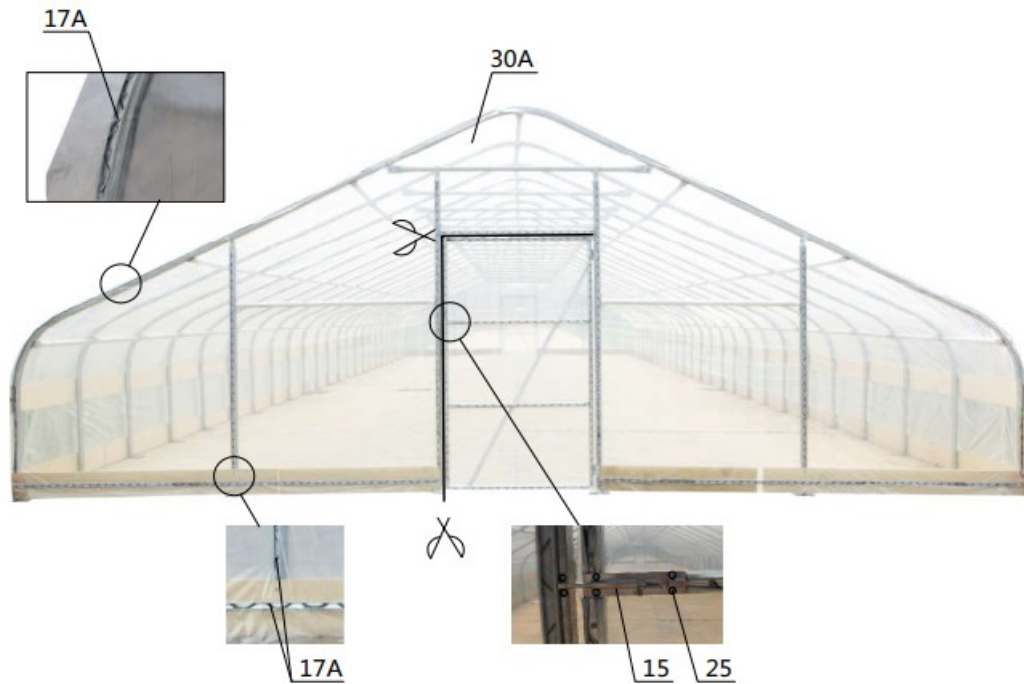

Figure 9
Step 6 : Install front and rear cover panel (refer to figure 9)